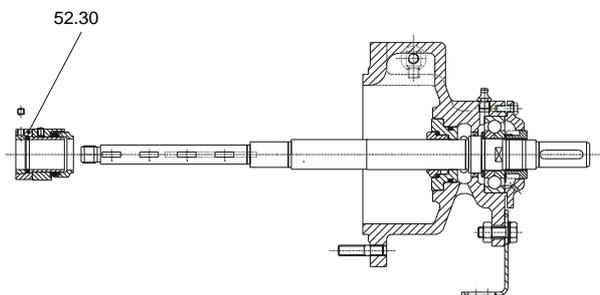

Fig. 4
12. Mark position of mechanical seal. Loosen locknut of the shaft sleeve 52.30 and remove with the mechanical seal rotary element (fig. 4).